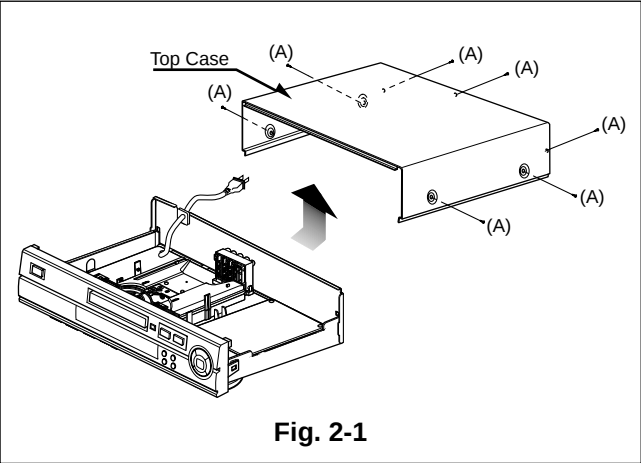

Fig. 2-1
- 1. Release 7 screws (A). (See Fig. 2-1)
- 1. Remove the top case.(See Fig. 2-1)
- 2. Remove 12 screw (C).
- 5. Remove 2 screw (D).